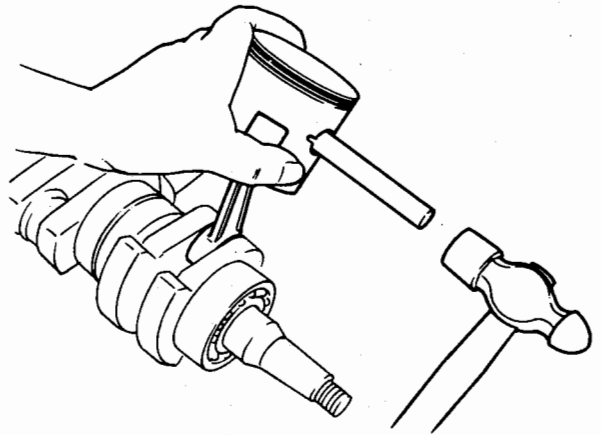

Fig. 36 Removing the piston
- 3) Remove the piston from the connecting rod using a tool piston pin (Special stripping tool). (Fig. 36)